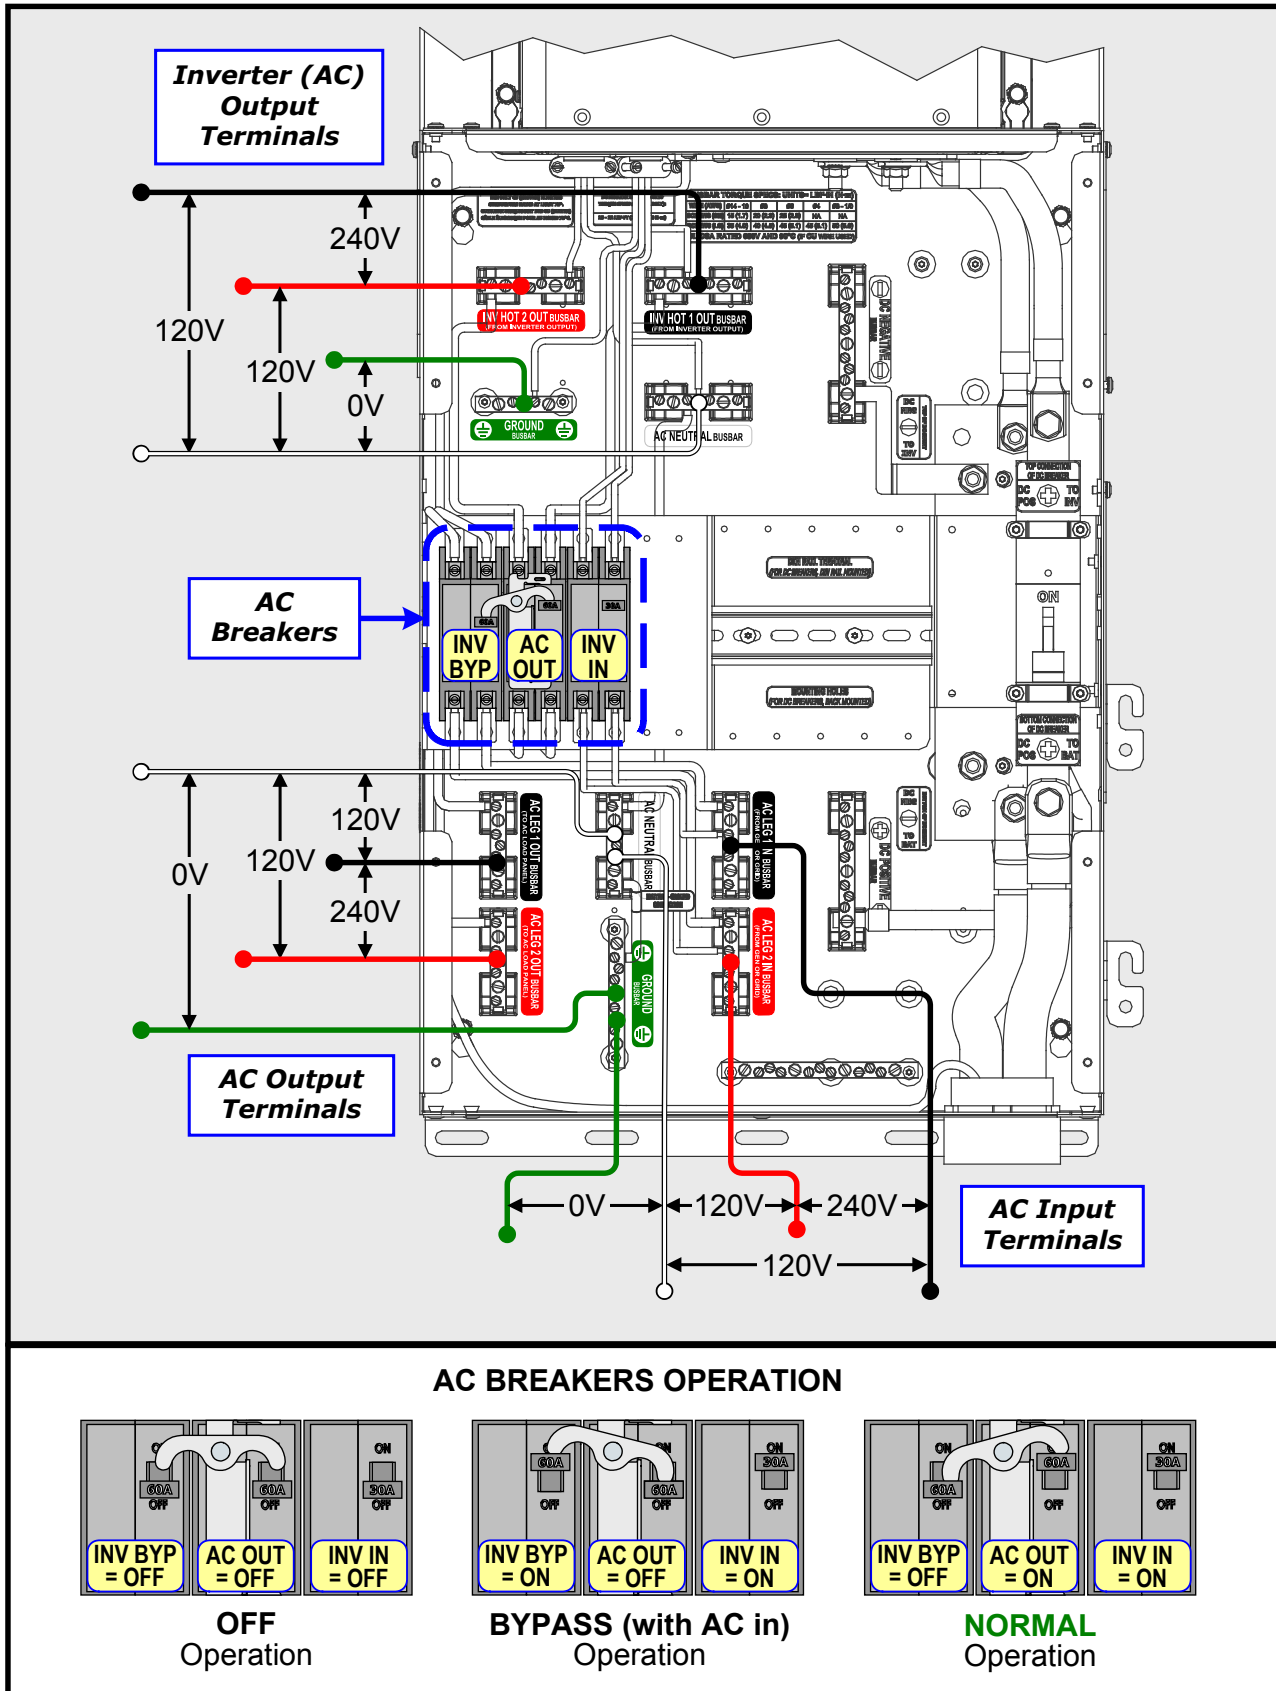
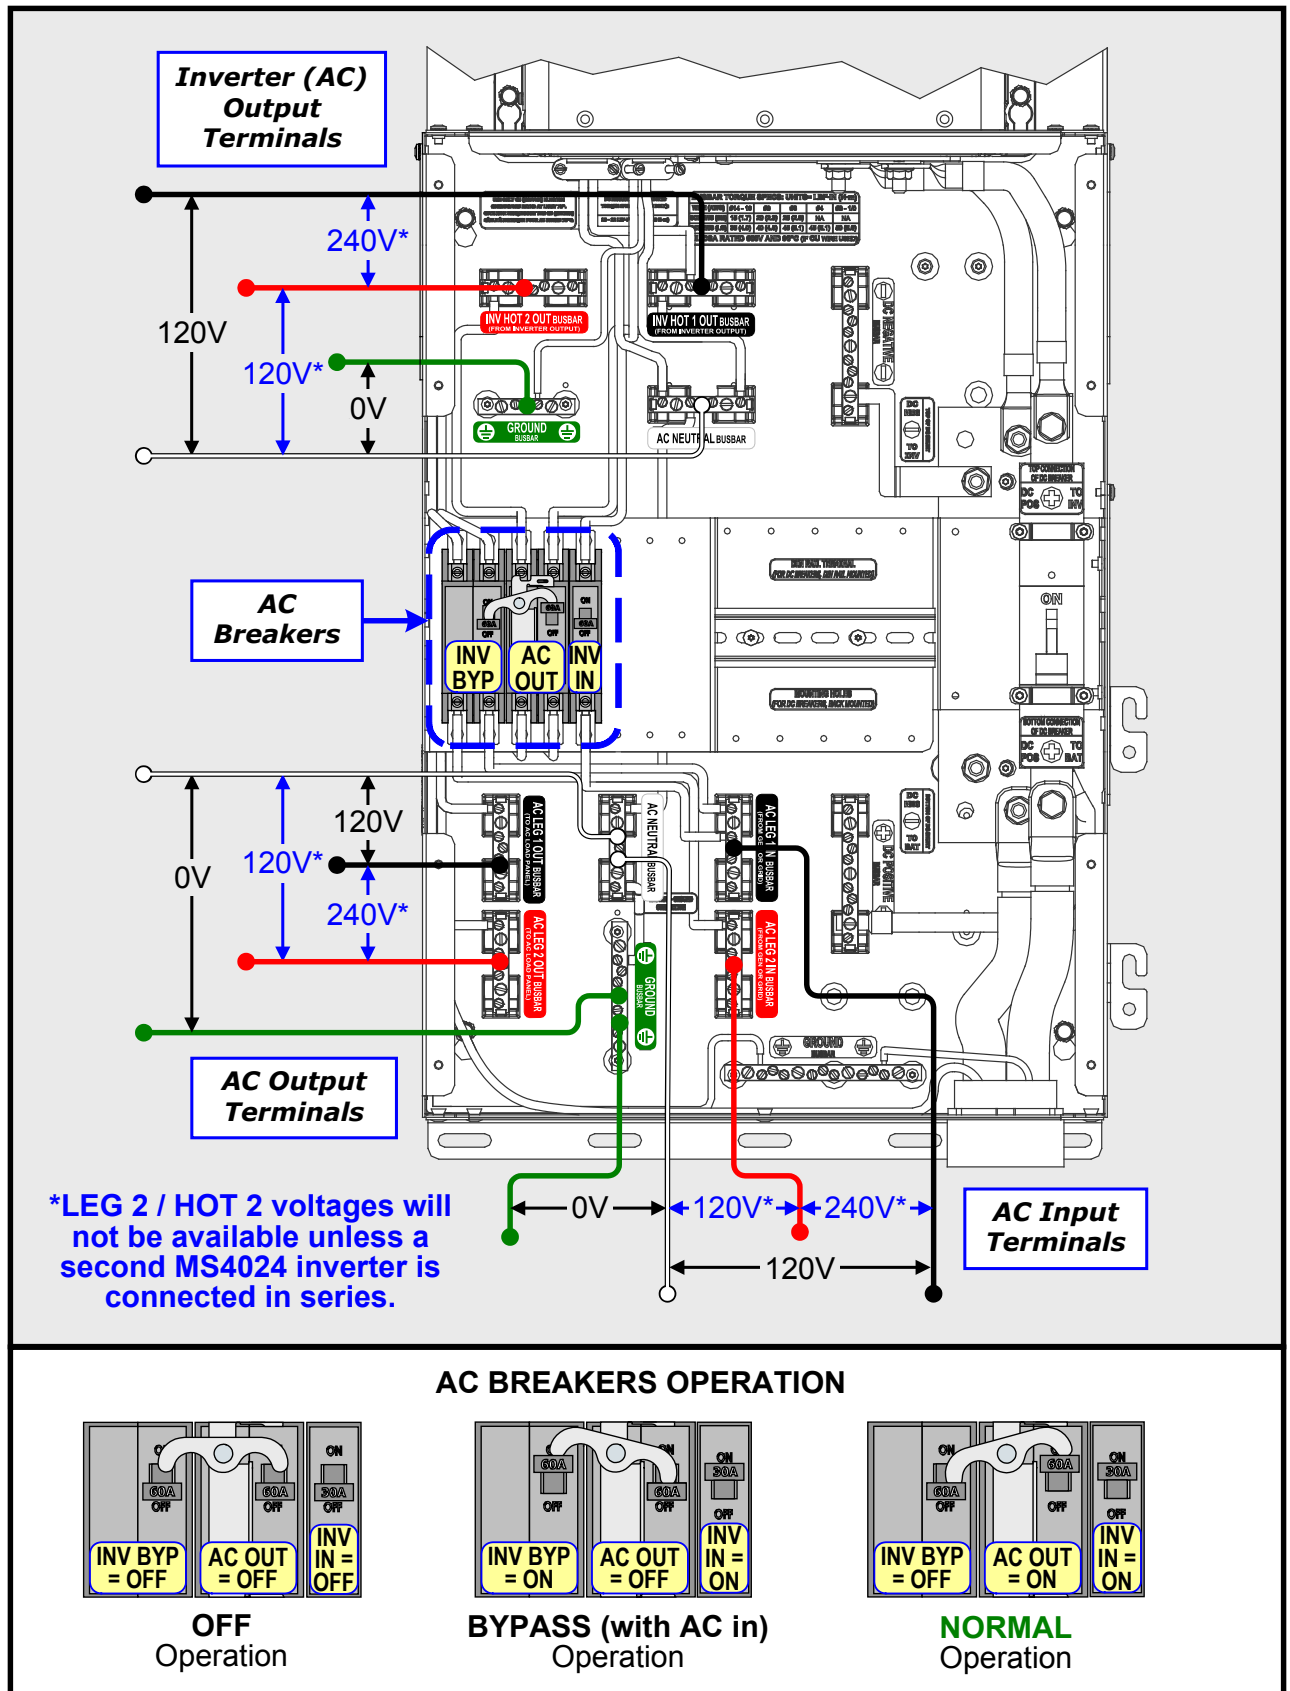
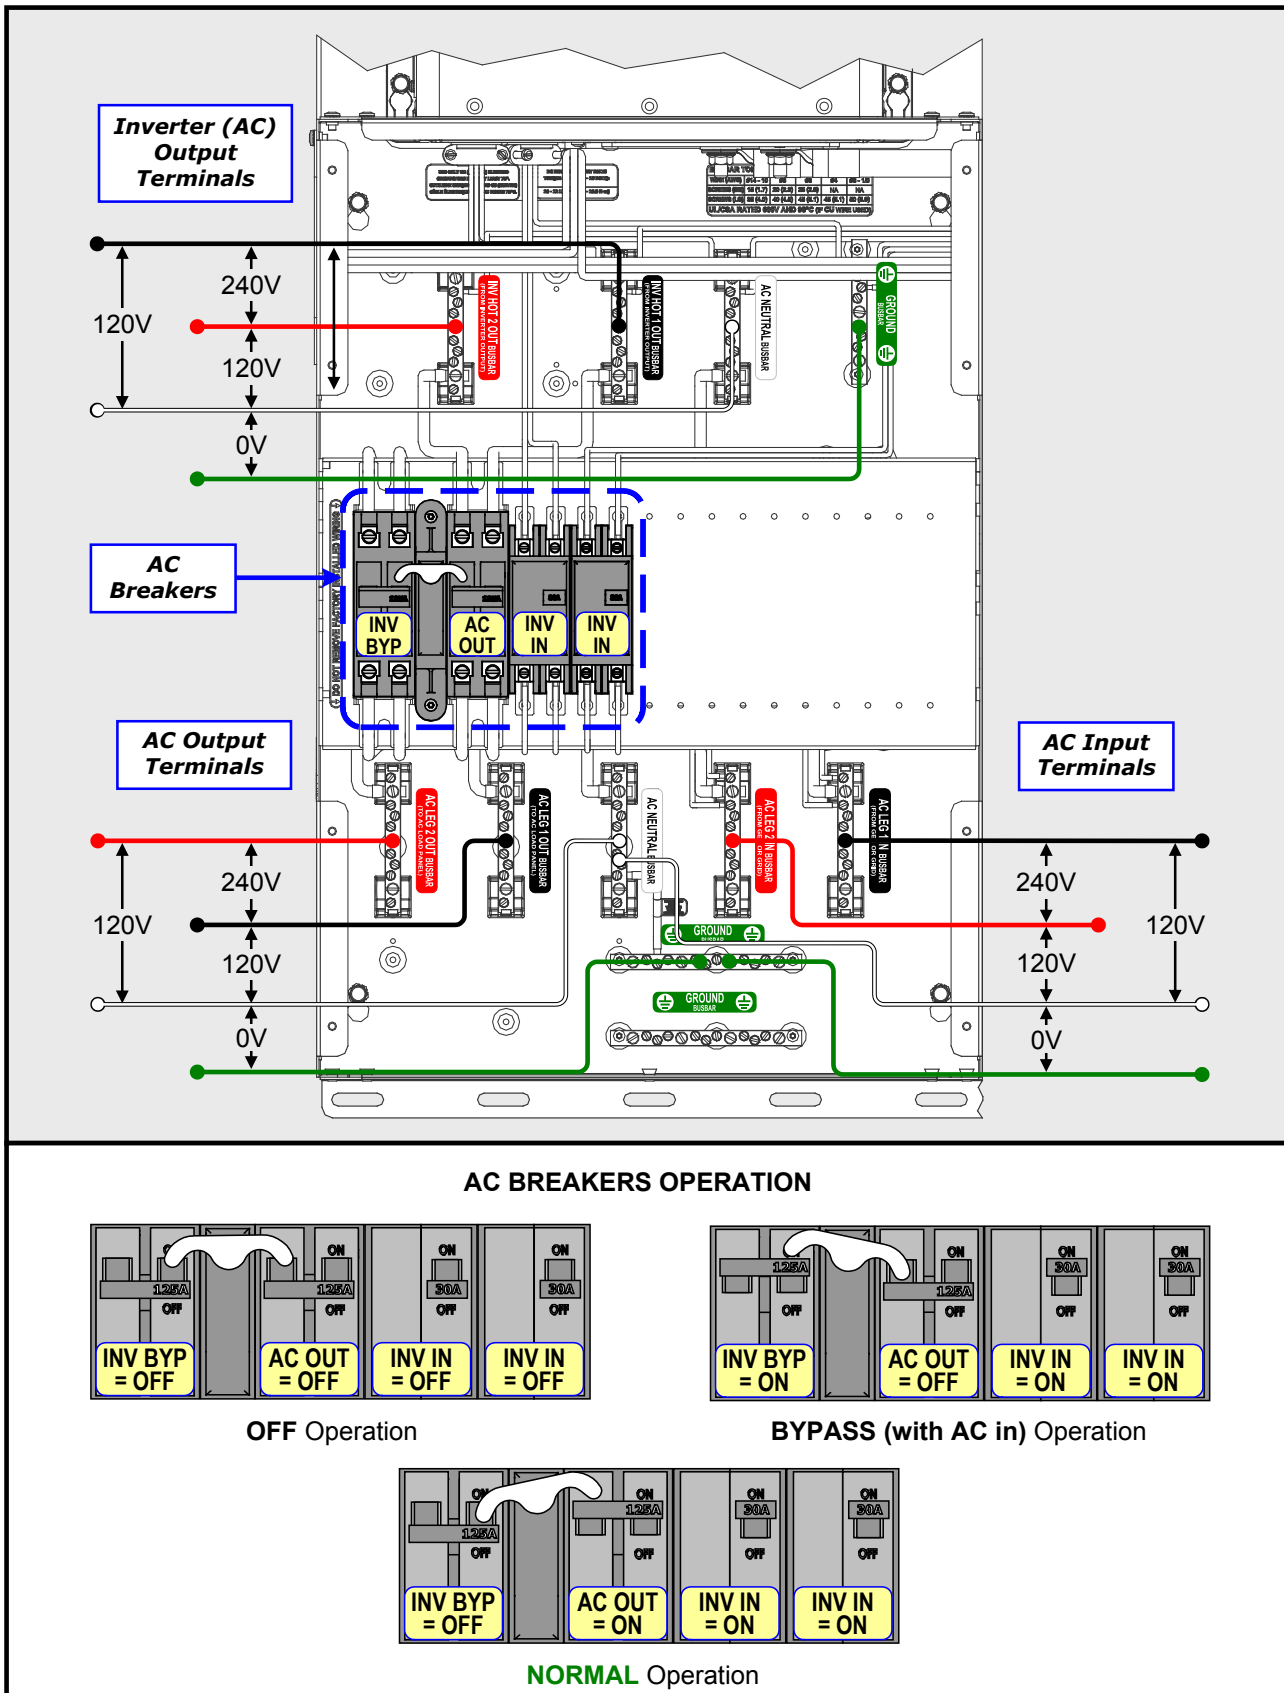

Figure 3-36, AC Voltage Checks - MPLS-30D and MPSH-30D Models
Figure 3-37, AC Voltage Checks - MPSL-60S Models
Figure 3-38, AC Voltage Checks - MPDH-30D (AC Side) Models
Note: For the following steps, refer to Figure 3-36 for MPSL-30D and MPSH-30D models, Figure 3-37 for the MPSL-60S models, and Figure 3-38 for MPDH-30D models.
b. Connect an AC voltmeter (or multimeter set to AC Volts) to the **Inverter AC Output Terminals** and verify the correct AC voltage from the inverter. Refer to Figure 3-36, 3-37, or 3-38 (depending on your MP model) to determine the correct inverter AC output voltage.
f. Apply power from an external AC source (utility grid or AC generator) to the **AC Input Terminals** and verify the correct AC voltage from the external AC source. Refer to Figure 3-36, 3-37, or 3-38 (depending on your MP model) to determine the correct AC input voltage.